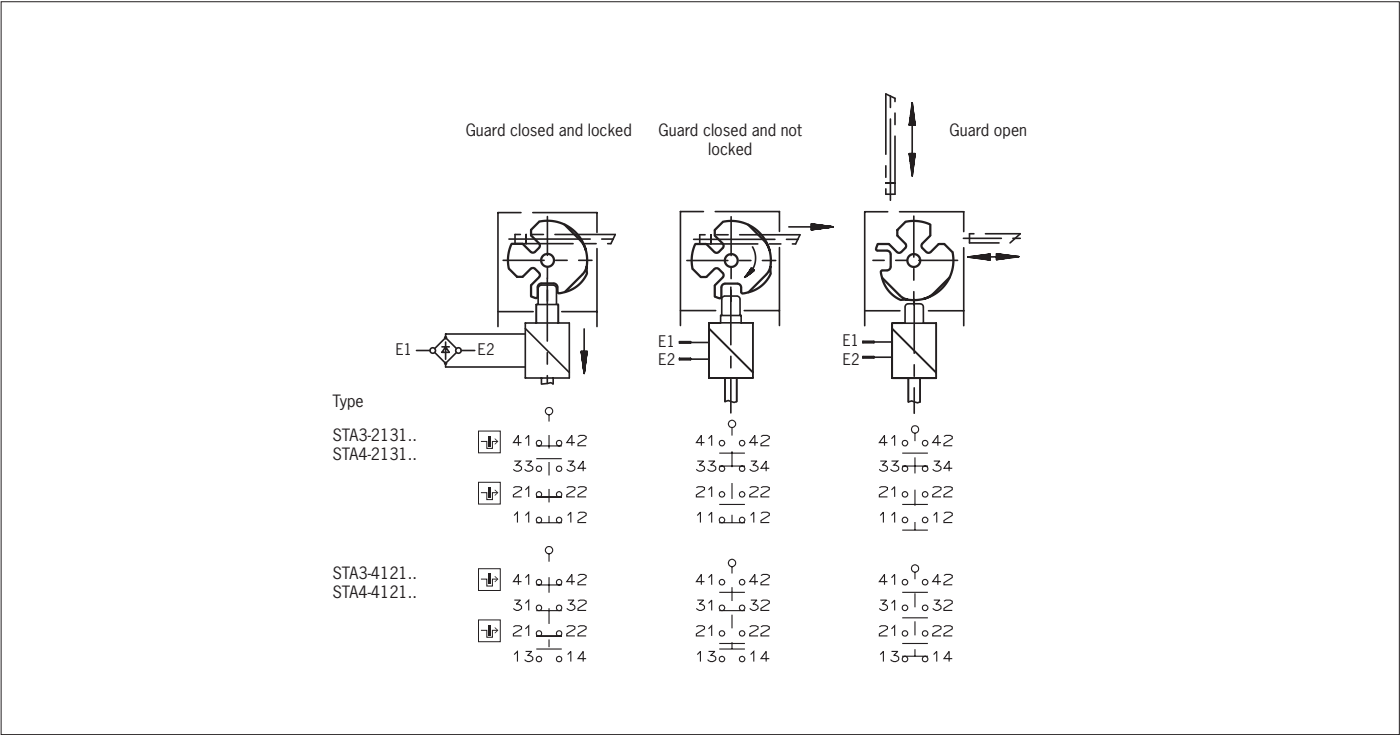

Fig. 3: Switching elements and switching functions
2. Connect and tighten terminals with 0.5 Nm (for terminal assignment, see Fig. 3).